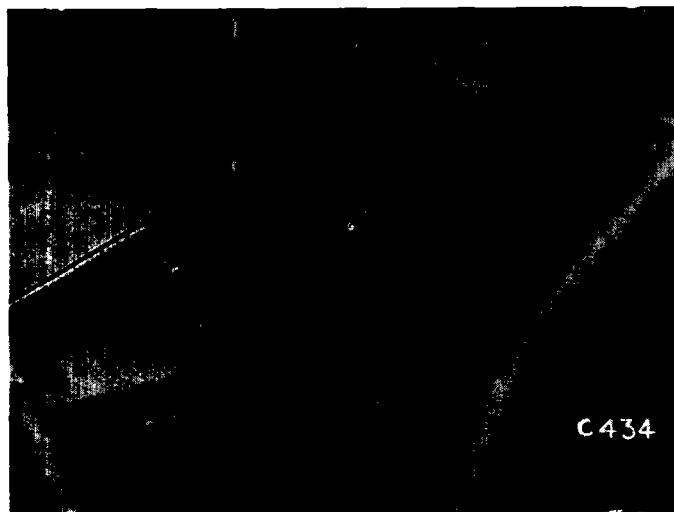

Fig. 18. Front engine mountings
- Front engine mountings (1), Fig. 18.
- Front mountings (1), Fig. 18.